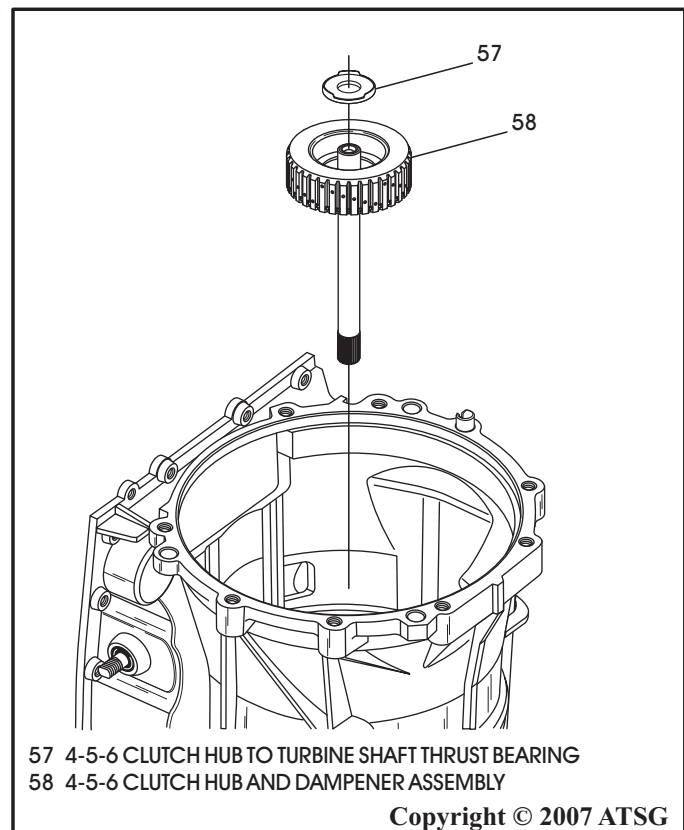

Figure 47
9. Remove the 4-5-6 clutch hub and dampener assembly and thrust bearing, as shown in Figure 47.